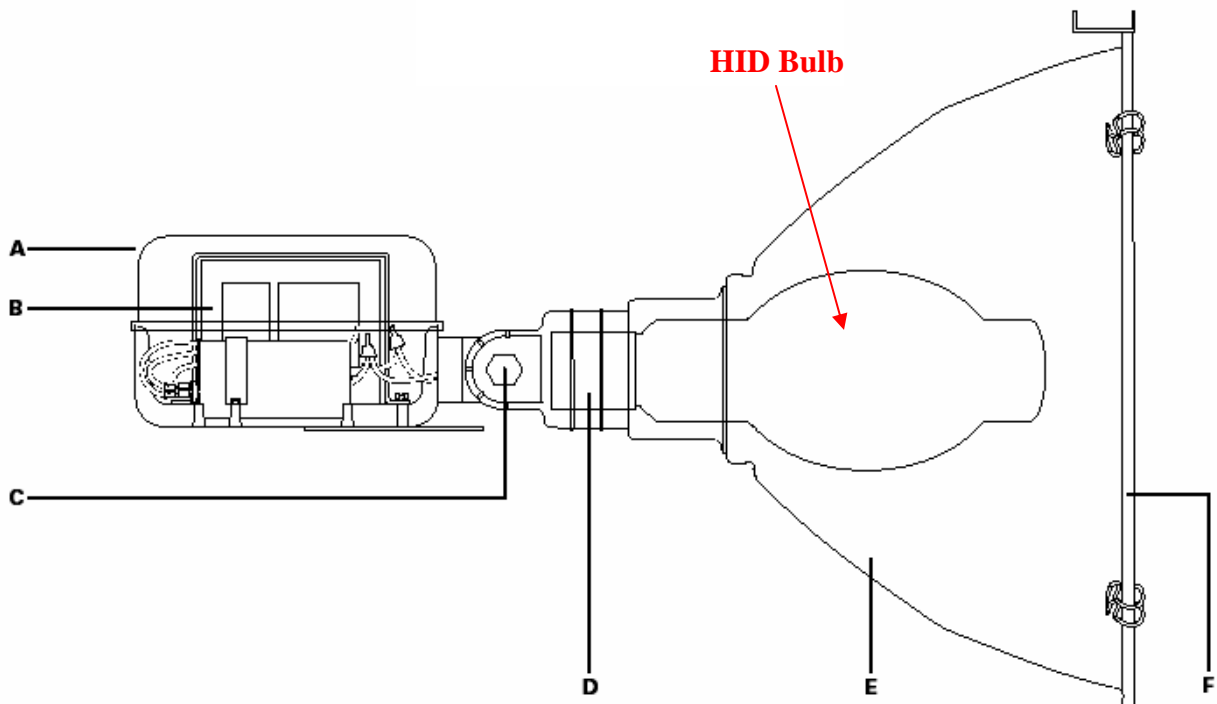

Figure 8 - HID Sports Floodlight Diagram
- Figure 8 – Sports Floodlight Diagram